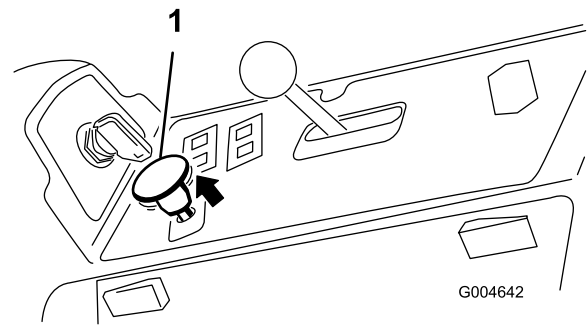

Figure 20
3. Pull up on the PTO switch to engage it (Figure 20).